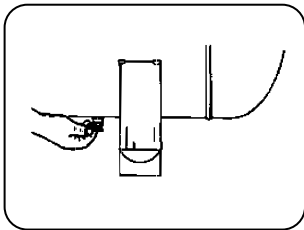

FIGURE 8.1
10. Check safety valve functioning (Figure 8.1) with the product turned off and with the tank without pressure, to avoid accidents.
- B. Drain the condensate (water) from within the tank through the purger (Figure 8.1).